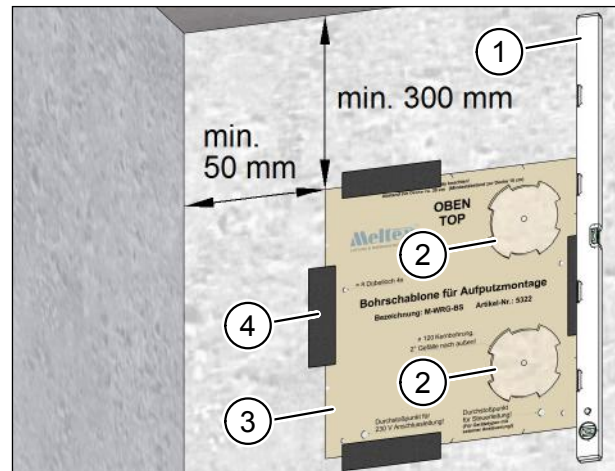

Fig. 9: Marking positions of the core drill holes
- ▶ Press the pre-punched cut-outs (item 2 in Fig. 9) for the core drill holes out of the drilling template.
- ▶ Position the drilling template (item 3 in Fig. 9) at the installation location on the internal wall.
- ▶ Use the spirit level to align the drilling template (item 1 in Fig. 9).
- ▶ Fix the drilling template in place with adhesive tape (item 4 in Fig. 9).